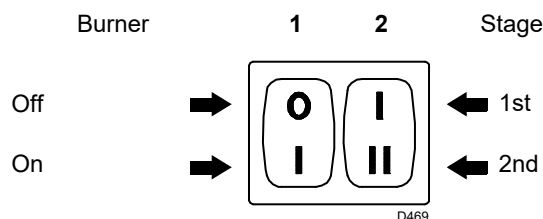
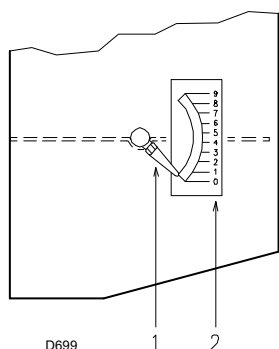
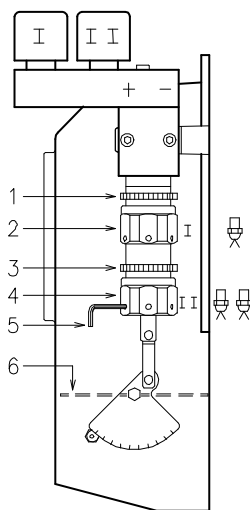

Fig. 19
Fig. 20
Fig. 21
- Start the burner by closing the control devices and with switch 1) (Fig. 19 pag. 18) in the "ON" position. The pump must rotate in the direction of the arrow marked on the cover.
- The pump can be considered to be primed when the light oil starts coming out of the screw 3). Stop the burner: switch 1) (Fig. 19 pag. 18) set to "OFF" and tighten the screw 3).
Set switch 1) (Fig. 19) to "ON".
Keep the burner operating at 1st stage by setting the switch 2) (Fig. 19) to the 1st stage position. Opening of the air gate valve 6) (Fig. 21) must be adjusted in proportion to the selected nozzle: the index 1) (Fig. 20) must be aligned with the notch 2) (Fig. 20) specified in table (Tab. D) This adjustment is achieved by turning the hex element 2) (Fig. 21):
2.3 notch (Fig. 20) aligned with index 1).
When the adjustment is terminated lock the hex element 2) (Fig. 21) with the ring nut 1).
N° = Notch 2) (Fig. 20)
Set switch 2) (Fig. 19 pag. 18) to the 2nd stage position and adjust the air gate valve 6)(Fig. 21) by turning the hex element 4)(Fig. 21), after having loosened the ring nut 3)(Fig. 21).
in order to facilitate adjustment of hex elements 2) and 4)(Fig. 21), use a 3 mm Allen key 5) (Fig. 21).